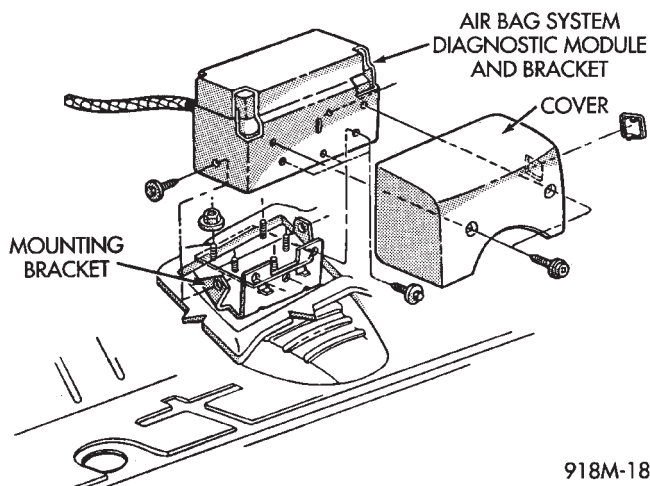

Fig. 8 Air Bag System Diagnostic Module
(1) Disconnect battery negative cable, and isolate cable.
(2) Remove forward console or cover as necessary (Fig. 8 and 9).